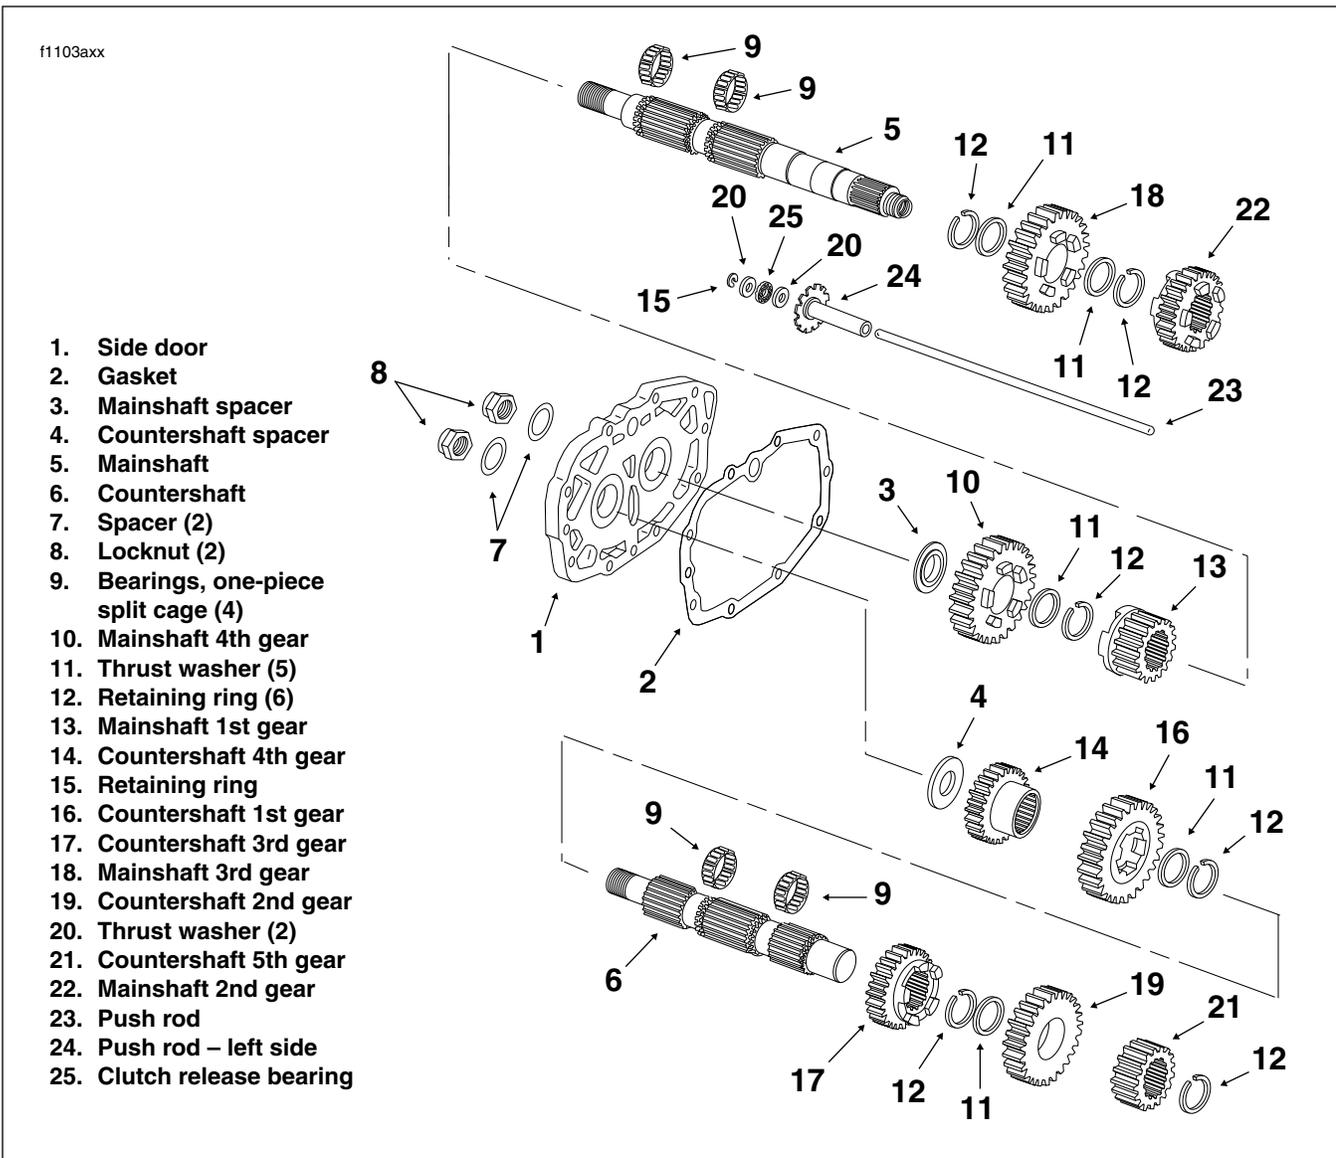

Figure 7-25. Side Door, Mainshaft and Countershaft Assembly (Exploded View)
- See Figure 7-25. Slide the spacers onto the shafts with the tapered side facing the side door end. Note that the mainshaft spacer has a shoulder while the countershaft spacer does not.